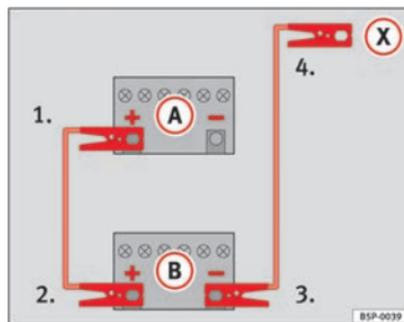
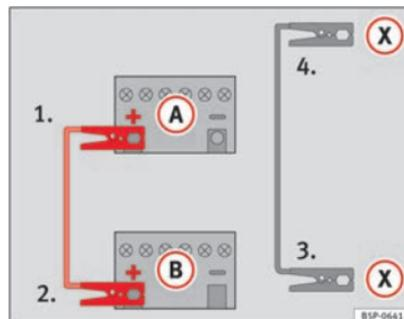

Fig. 230 Diagram of connections for vehicles without Start-Stop system
Fig. 231 Diagram of connections for vehicles with Start-Stop system
- Connect one end of the *red* jump lead to the positive (+) terminal of the vehicle with the flat battery (A) ⇒ Fig. 230.
- Connect the other end of the *red* jump lead to the positive terminal (+) in the vehicle providing assistance (B).
- Connect one end of the *black* jump lead to the negative terminal (-) of the vehicle providing assistance (B) ⇒ Fig. 230.
- Connect the other end of the *black* jump lead (X) to a solid metal component bolted to the engine block or to the engine block itself of the vehicle with the flat battery. However, connect it to a point as far as possible from the battery (A).
- Connect one end of the *red* jump lead to the positive (+) terminal of the vehicle with the flat battery (A) ⇒ Fig. 231.
- Connect one end of the *black* jump lead (X) to a suitable ground terminal, a solid piece of metal in the engine block, or to the engine block ⇒ Fig. 231.